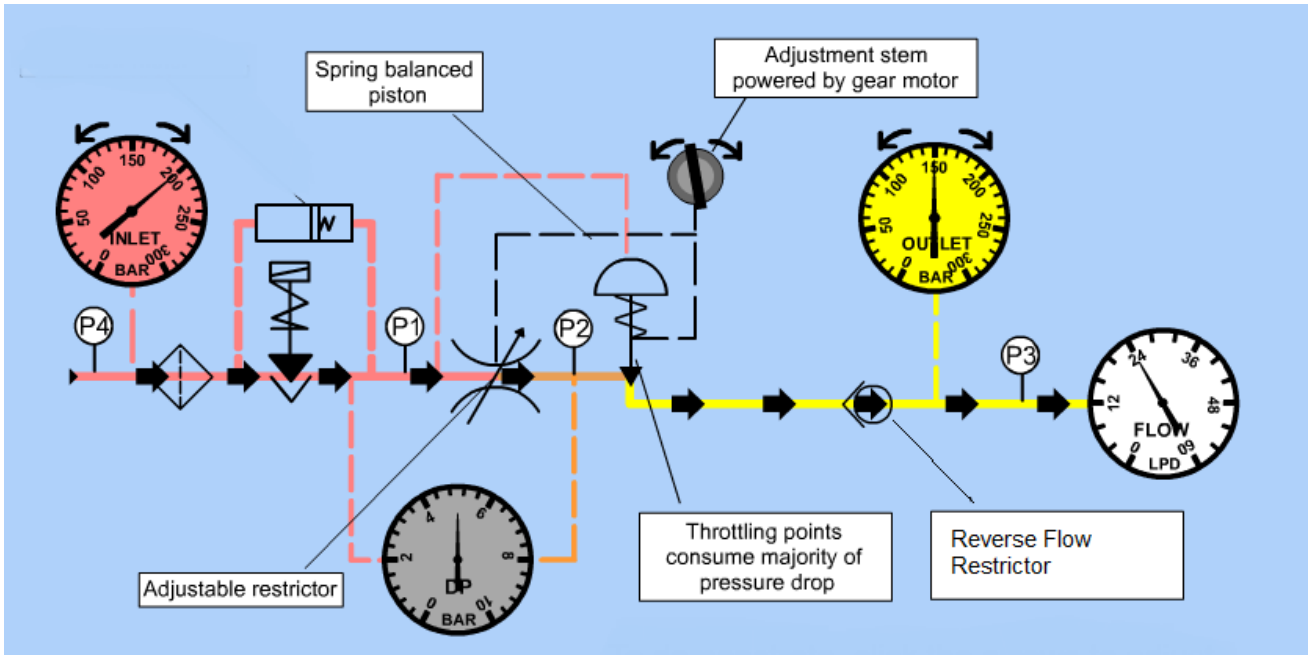
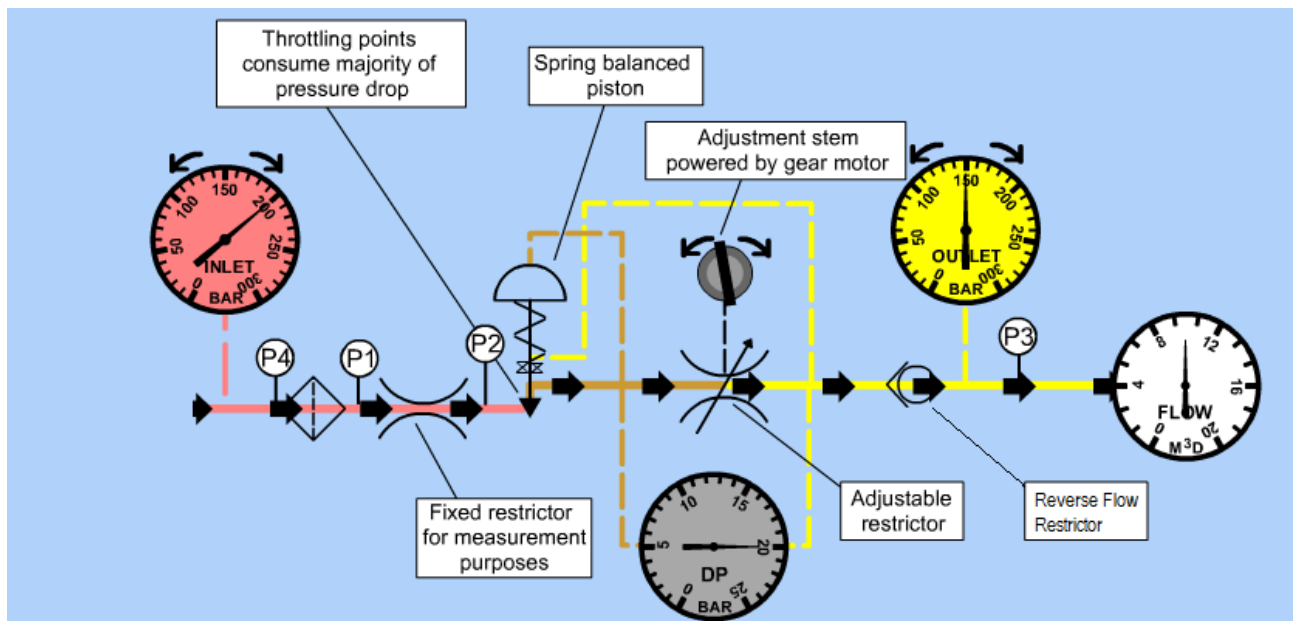

Figure 1: P&ID for Low Flow CIMV
Figure 2: P&ID for High Flow CIMV
- 8.1.1 The SkoFlo subsea CIMV core is a remote adjustable device with feedback abilities. Commands sent to the CIMV result in stem adjustments which change the overall chemical injection flow rate. The CIMV core can adjust by a stem percent request or by a flow rate request. Adjusting by stem percent is primarily used for diagnostic purposes and not production use. Once the core adjusts, it will regulate to the new flow rate within the stated accuracy for the specific CIMV type. Refer to Flow Measurement and Flow Adjustment, LF & HF CIMV (section 10) for in depth information regarding flow adjustment and metering Figure 1 and Figure 2 below provide the P&ID for the low flow and the high flow CIMV.